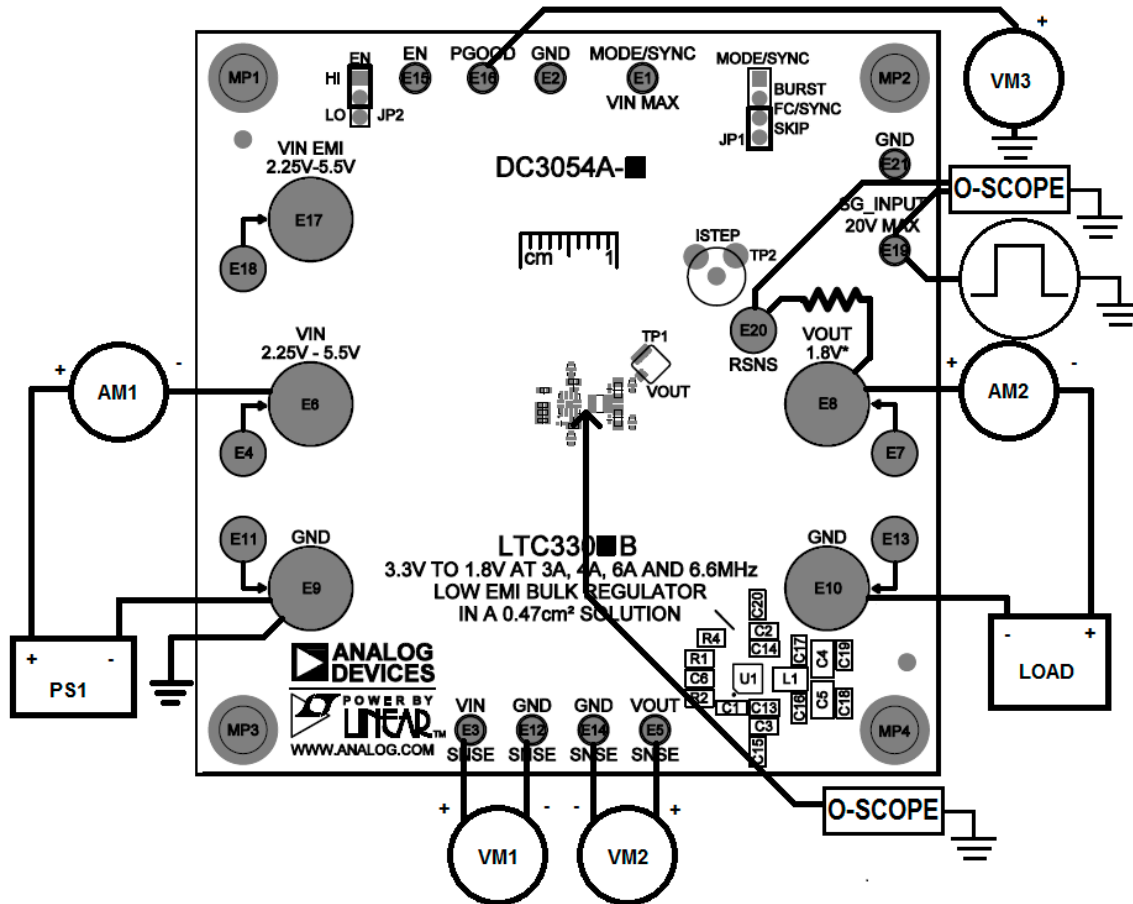

Figure 1. Test Setup for the DC3054A-A Demo Board
Demonstration circuit 3054A-A is easy to set up and use to evaluate the performance of the LTC3307B. Refer to Figure 1 for proper measurement equipment setup and follow the procedure below:
NOTE: For accurate V_{IN} , V_{OUT} and efficiency measurements, measure V_{IN} at the V_{IN} SNSE and GND SNSE turrets and V_{OUT} at the V_{OUT} SNSE and GND SNSE turrets as illustrated as VM1 and VM2 in Figure 1. When measuring the input or output voltage ripple, care must be taken to avoid a long ground lead on the oscilloscope probe.
13. To test the transient response with a base load, add the desired resistor to produce a minimum load between V_{OUT} and RSNS turrets (R_L shown on Figure 1). Note that the total load resistance will be R_L plus R11 (100mΩ).